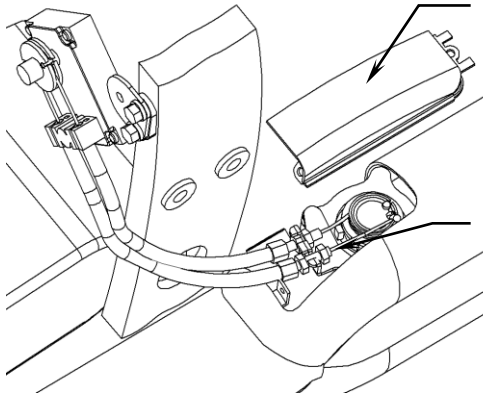
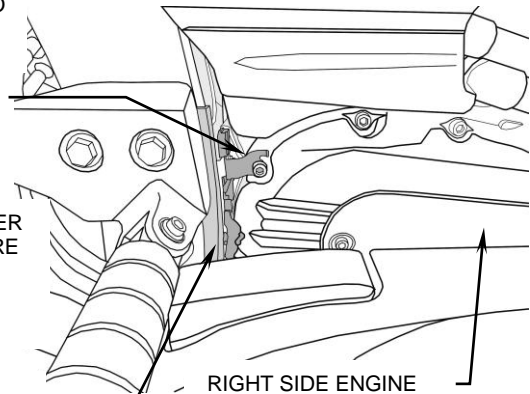

FIGURE 1
FIGURE 2
2. Perform the following to remove the stock exhaust system. **NOTE:** You must disconnect and remove the power valve cables as well as unplug the oxygen sensor connector first, then remove the exhaust system and mounting bracket, see **Figure 1** for power valve. Loosening the jam nuts on each cable, and disengaging the cable barrels from the power valve pulley disconnect the power valve cables. The power valve, and cables are not needed with the new Cobra exhaust system, leave the solenoid box under the seat in place without the cables. To disconnect the O₂ sensor remove the right rear footpeg and remove the steel plate with hook securing O₂ sensor harness behind it, retain plate for later reinstallation. Remove the socket head screw securing the O₂ sensor harness and bracket to engine case on the right side of the motorcycle, see **Figure 2**, unplug the stock male and female connectors, and remove entire exhaust system. Disengage the female O₂ connector from the small bracket, (which was unbolted from engine case), to gain extra harness length, upon reassembly of new Cobra exhaust, the small bracket, (from engine case), will not be reused, **unless** a closed loop Fi2000® (92-1773CL /92-1773CL-50), is to be used, then please refer to those specific instructions. Next remove the oxygen sensor from the stock exhaust and retain for later reinstallation.